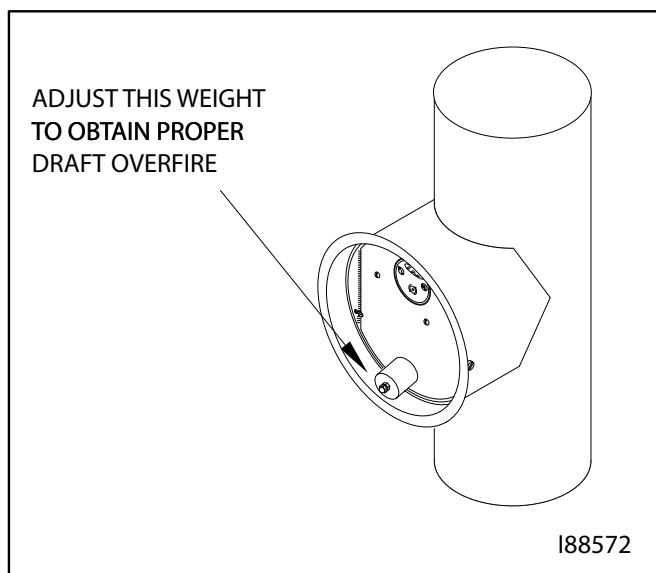

Figure 8B - Adjustment of Barometric Damper
4. As shown in Figure 8B, adjust the weight on the flapper to obtain a consistent $-.02$ w.c. draft over fire. Turn the weight **COUNTERCLOCKWISE** to increase draft (i.e. draft increases as the flapper closes). Turn the weight **CLOCKWISE** to decrease draft (i.e. draft decreases as the flapper opens).